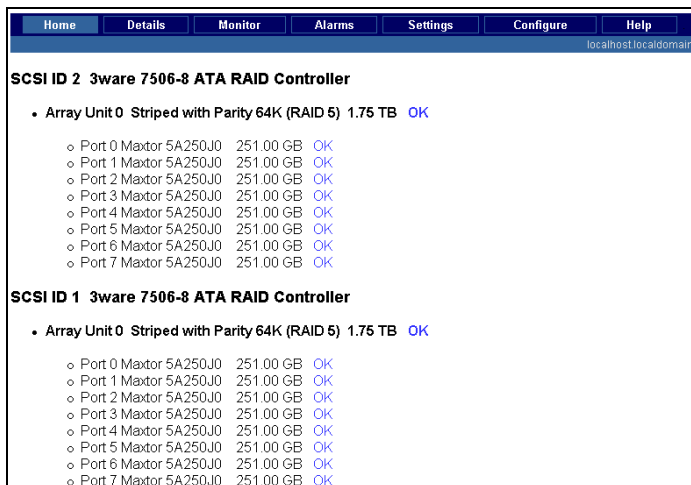

FIG. 1 Disk Management Utility - Home page
3. Press **Enter** to open the Disk Management Utility - Home Page (FIG. 1).
- Press **Enter** to open the Disk Management Utility - Home Page (FIG. 1).